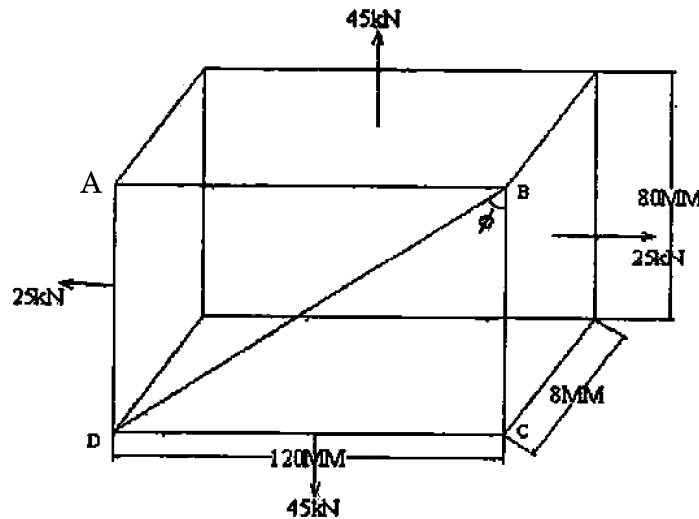

Fig. 3
- (b) A block  $120 \text{ mm} \times 80 \text{ mm}$  thick is subjected to uniformly distributed stress fields as shown in Fig. 3. Compute the normal stress and shear stress development along the plane BD. Also find out the maximum shear stress and corresponding plane. [6]